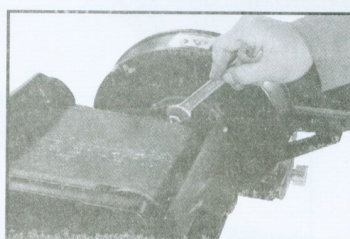

Fig 7
1) Loosen the two nuts shown in (fig 7) (one nut is obscured by the belt arm in this photo but it is directly below the visible one). With these nuts loose, the belt frame can be raised to its